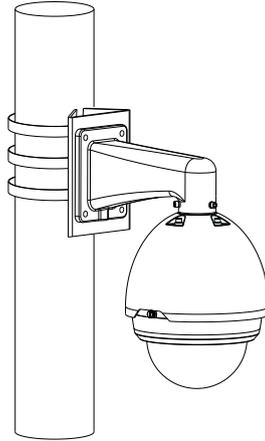

Figure 5-3
Step 2 Please refer to chapter 1.5 for detailed installation information. See Figure 5-3 for the complete installation of Speed dome.